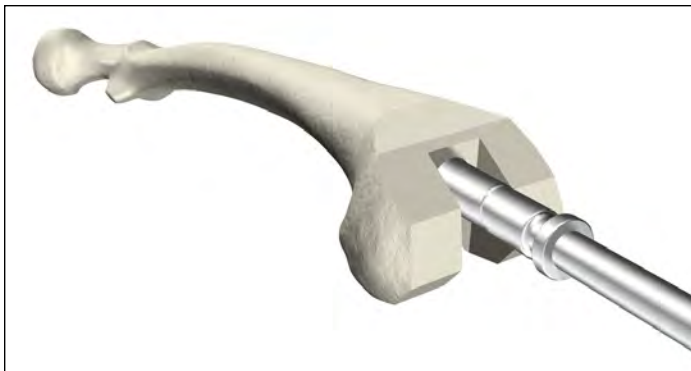

Figure 17
4. If the reamer diameter is less than 16mm, prepare for the boss of the femoral component by reaming over the top of the IM Reamer shank with the Boss/Offset Reamer. Ream until the step on the Boss/Offset Reamer lines up with the planned resected bone depth. (Figure 17)